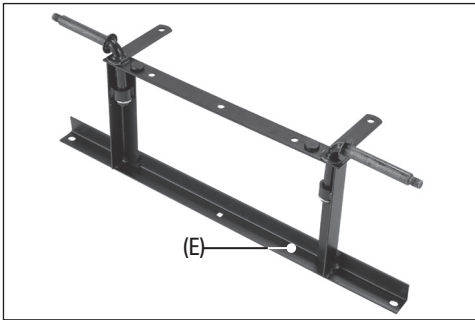

Fig. 1
1. Stand the front axle sub-assembly (E) on its folded bracket so that the movable axles are at the top and position the axle threads so that they extend outwards parallel to the assembly crossbars. (Fig. 1).